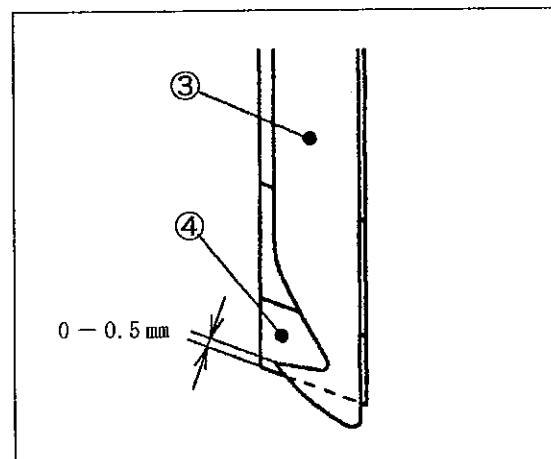

Fig. 48
The engagement between the movable trimming knife ③ and the fixed trimming knife ④ has been adjusted as shown in Fig. 48.